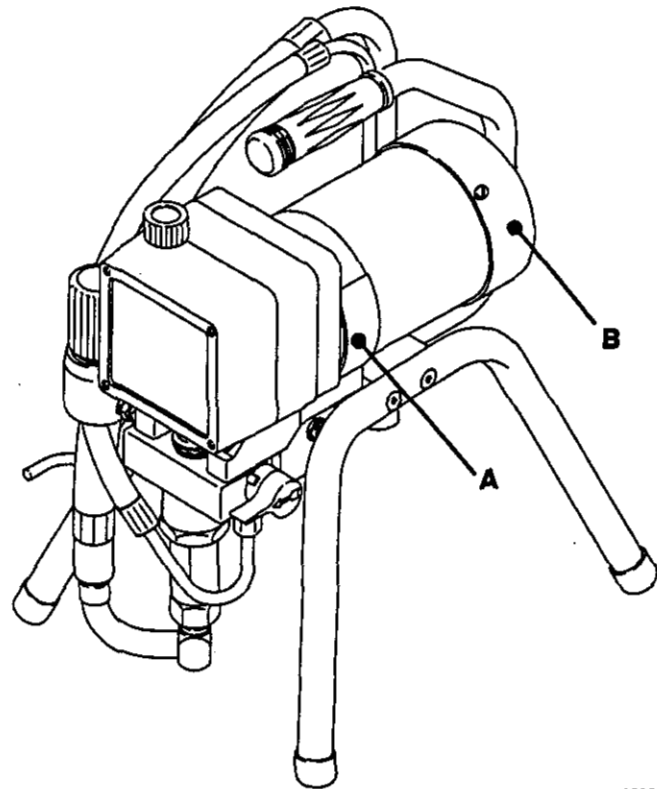

Fig 14
Remove the handle (24) and the fan cover (B). See Fig 14.